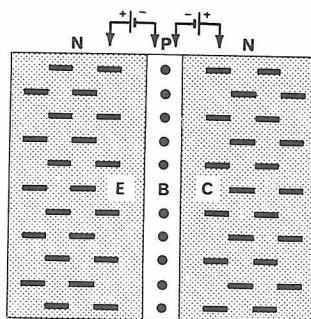

Fig. 1-10. Arrangement of an npn transistor.
A transistor consists of an emitter (E), a base (B), and a collector (C), as shown in Fig. 1-10. This arrangement is for an npn transistor. Correct base-to-emitter bias polarity for an